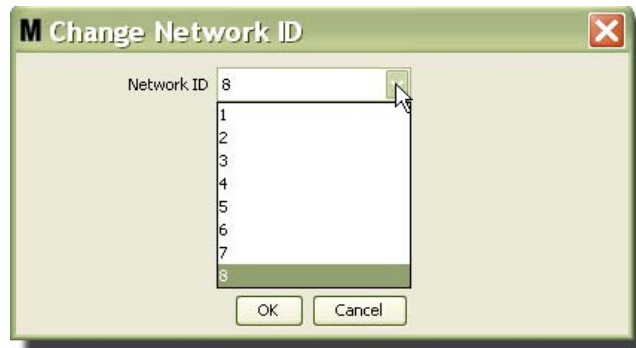

FIG. 97
3. From the drop-down menu of available Network ID numbers, select the Network ID number assigned to your location (FIG. 97). Click OK to close the screen and save the changes.